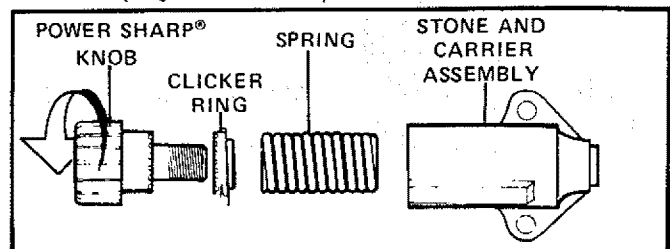

Figure 22
2. Remove the two screws holding the Stone and Carrier Assembly on the saw. Figure 22.
3. Unscrew Knob as shown in Figure 22.